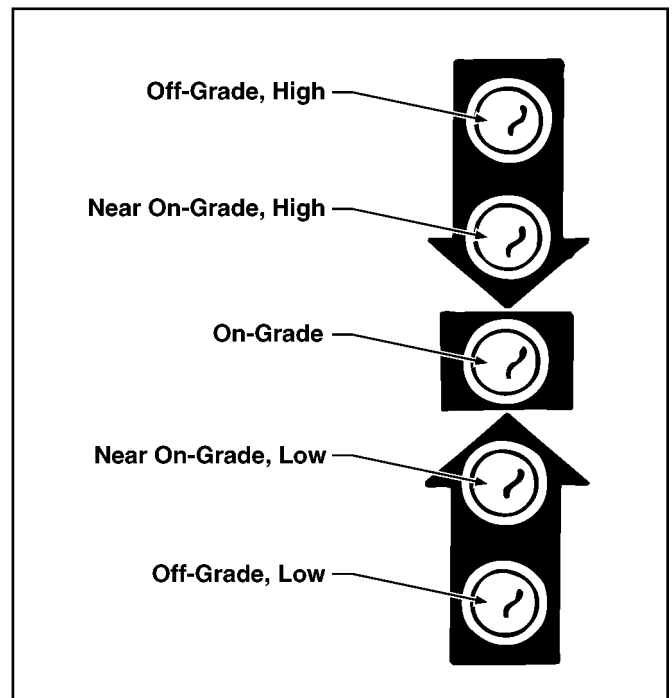

Figure 1-5 Grade Position Lamps
- **Grade Position Lamps.** (Refer to Figure 1-5) Indicate the position of the box's cutting edge relative to the plane of laser light from the Laser Beacon. These lamps function in the same way as the Grade Position LEDs on the Laser Sensor.